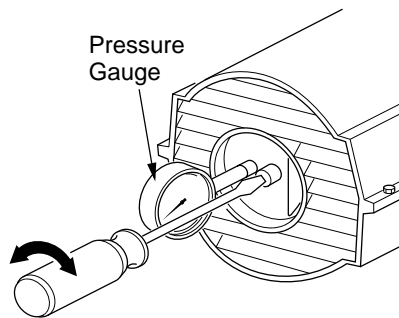

Figure 14 - Adjusting Pump Pressure (40/55/60/70 Models Shown)
4. Adjust pressure. Turn relief valve to right to increase pressure. Turn relief valve to left to decrease pressure. See specifications correct pressure for each model (see Figure 14).